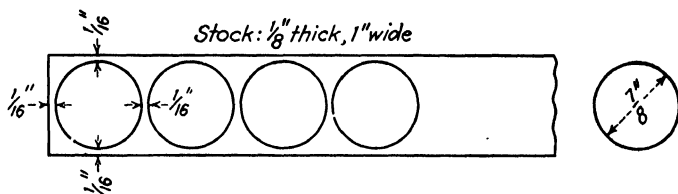

Fig. 298.—The steel strip is 36 in. long.
15. How many round pieces $\frac{7}{8}$ in. in diameter can be “punched” from a strip of steel 36 in. long, allowing $\frac{1}{16}$ in. between punchings (see Fig. 298)?
16. a. What is the weight of the unpunched strip in Fig. 298?